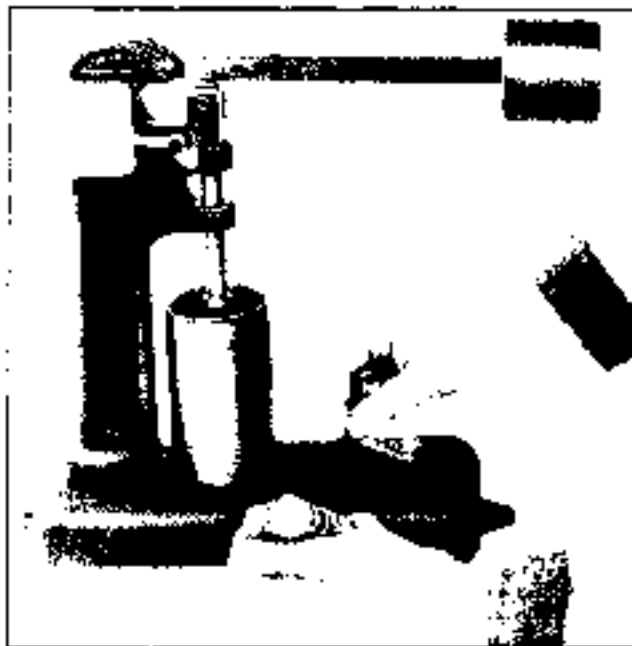

Fig. 6-85 Testing Leak-Down Rate
After all lifters have been assembled, the leak-down rate must be checked before they are installed in the engine. Valve lifter leak-down tester J 6790 (Fig. 6-85) is designed to test leak-down rate of lifters to determine whether or not they are within specified limits. As with previous service operations concerned with lifters, cleanliness is important. The tester cup and ram should be thoroughly cleaned, and testing should be done in an area free of dust and dirt. The testing procedure is described in the following steps:
5. Raise weight arm to allow plunger spring to expand fully; lower arm onto ram and commence turning crank slowly (1 revolution every 2 seconds). Time indicator travel from lower line (first line above set line) to line marked .125 or 1.0", while still rotating cup with crank (Fig. 6-85). Lifter is satisfactory if rate is between 20 and 90 seconds.
14. Clamp straightedge on cylinder head as shown in Fig. 6-85, and position valve train gauge J 8925 in push rod hole so that it seats properly in rocker arm.